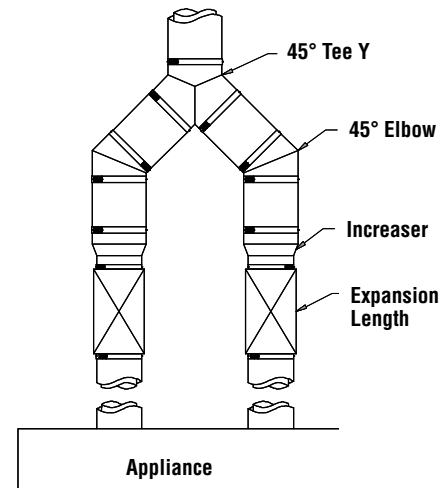

Figure 14 - 45° Tee Y
- This kind of tee is useful where the stack is located between two application or with a double exhaust system. Use the same support method and thermal expansion considerations from the other tees (see **figure 14**).